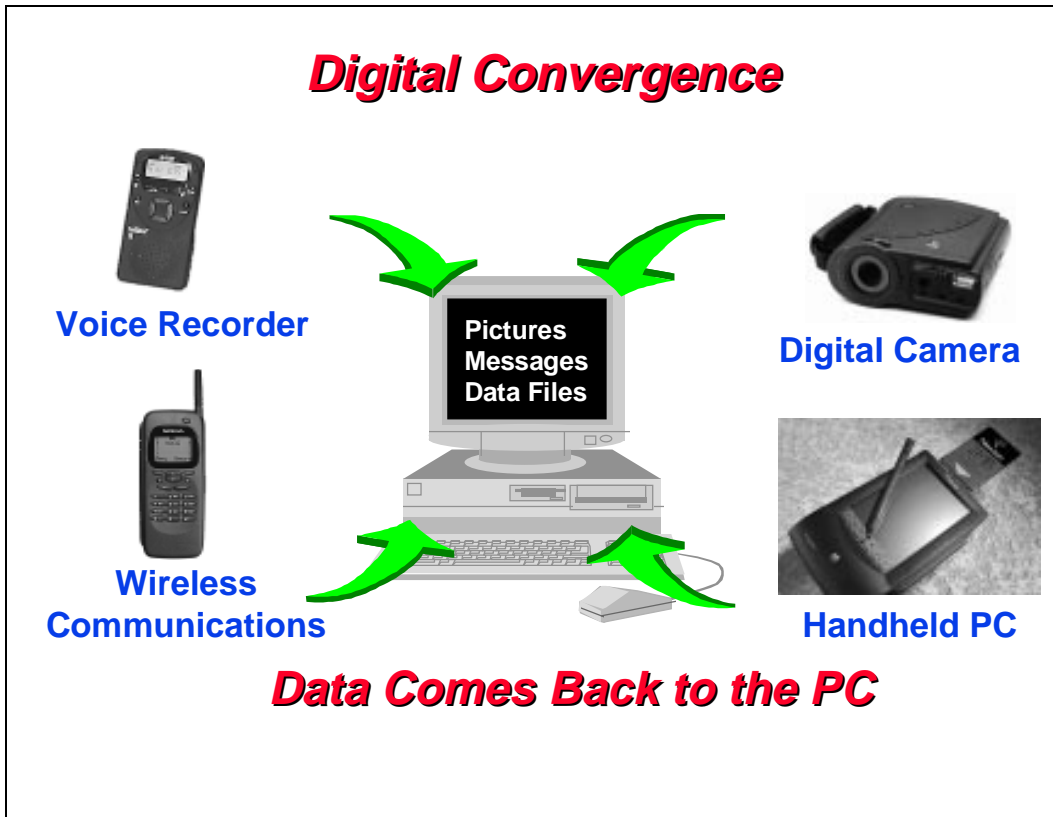

Figure 1. Digital Convergence
The importance of connectivity to a personal computer (PC) continues to grow with the emergence of new digital consumer applications like digital cameras, digital audio recorders and hand-held PCs (see Figure 1). These new devices provide a mechanism to record data while away from your PC. With the right PC connectivity solution, a consumer can easily transfer data back to the PC to be processed, manipulated, transferred over a network, or archived. The Miniature Card PC Connectivity Guide focuses on solutions that make data transfer to the PC a reality.